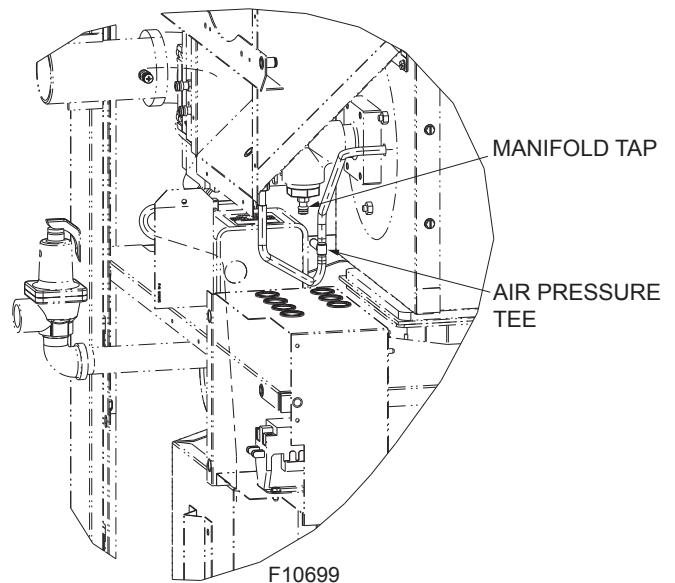

Figure 53. Air Pressure Tee
4. Attach second 12" scale manometer on the fan suction pressure hose. Pull black cap from the air pressure tee and connect the manometer. See **Figure 53**. NOTE: Retain caps for reinstallation later.
1. Check blower suction using the manometer attached to the air pressure tee with the heater firing at 100% input. See **Figure 53**. The reading should be as noted in **Table U** for both natural and propane gas.